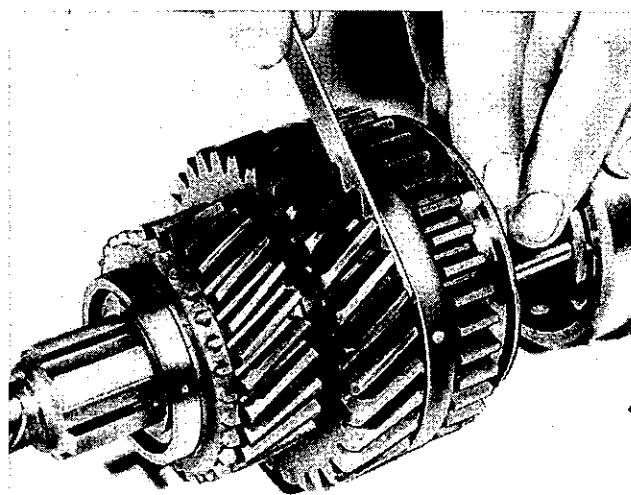

Fig. 21. Checking clearance between "first" speed sliding gear and its synchro cup
- (g) When reassembling new gears and bushes on to the mainshaft, there should be a clearance, measured as shown in Fig. 21 between the "first gear" synchro cup and the "first gear" itself of .065"—.070", with the gear synchro cup and cone in contact.